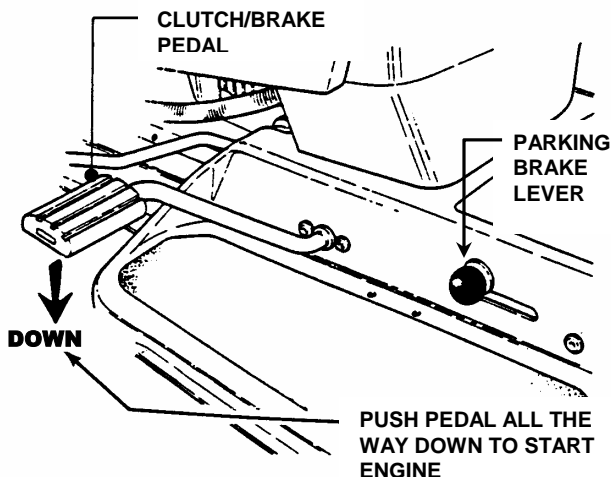

FIGURE 2.5
3. Depress the clutch/brake pedal fully. See Figure 2.5.